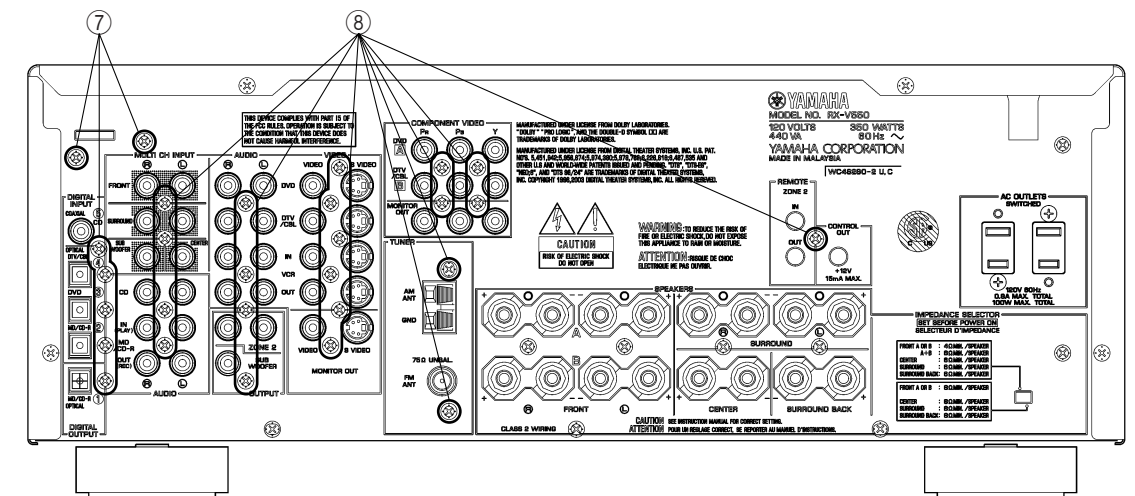

Fig. 3
- Remove 7 screws (⑦). (Fig. 3)
- Remove 21 (U, C, A models) / 20 (except U, C, A models) screws (⑧). (Fig. 3)